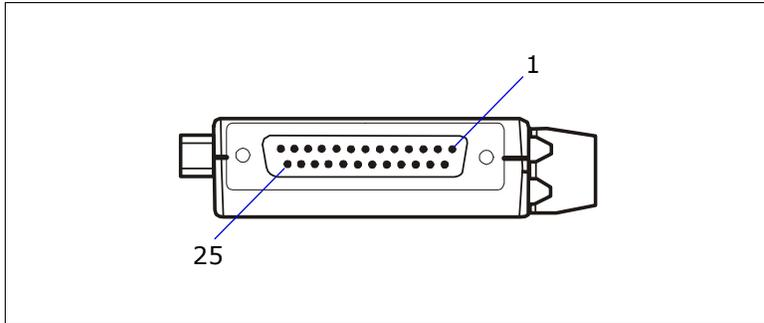

Figure 1-2 Side View of IB-131 showing Host 25-pin Connection
3. Use the host connector on the side of the IB-131 (figure 1-2) to connect with your host computer.
**Note:** When wiring the IB-131 host connector to a 25-pin host connector (typical desktop computer connection), cross pins 2 and 3. When wiring the IB-131 host connector to a 9-pin host connector (typical portable computer connection), do NOT cross pins 2 and 3. (See figure 1-2.)